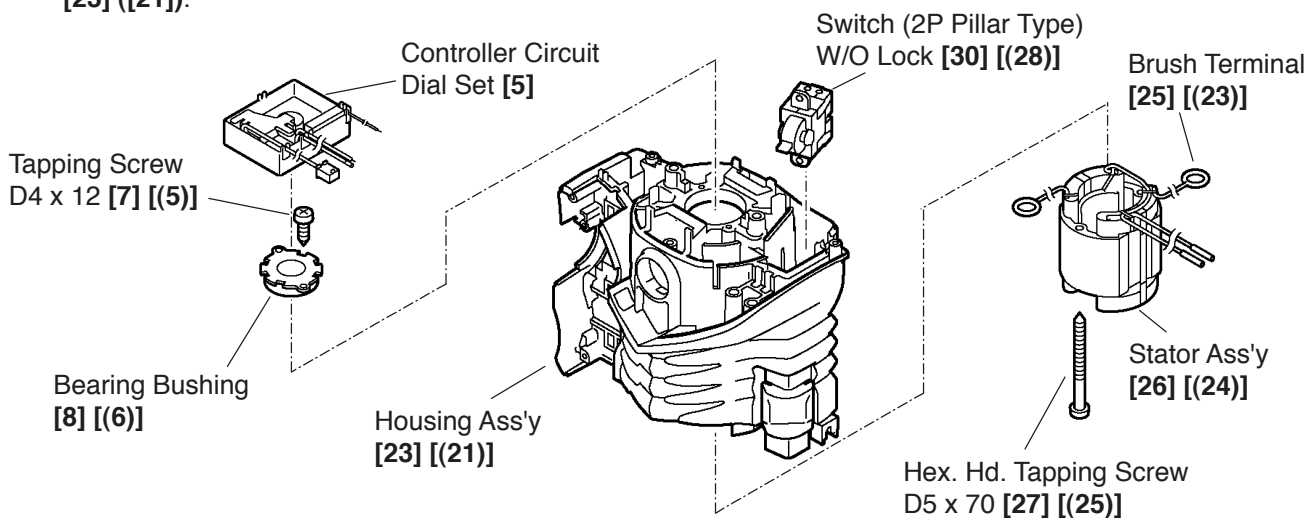

Fig. 7
(6) Remove the Stator Ass'y [26] ([24]) (Fig. 7)